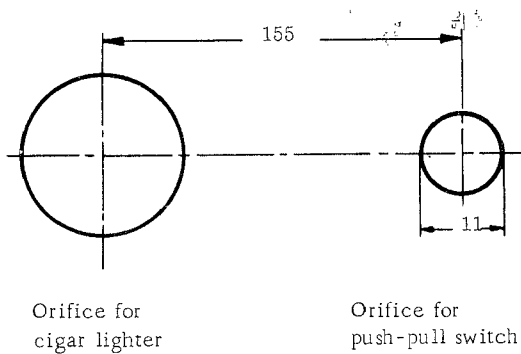

Fig. 1
2. Install push-pull rheostat switch No. 644.613.511.00, as illustrated in Fig. 1.